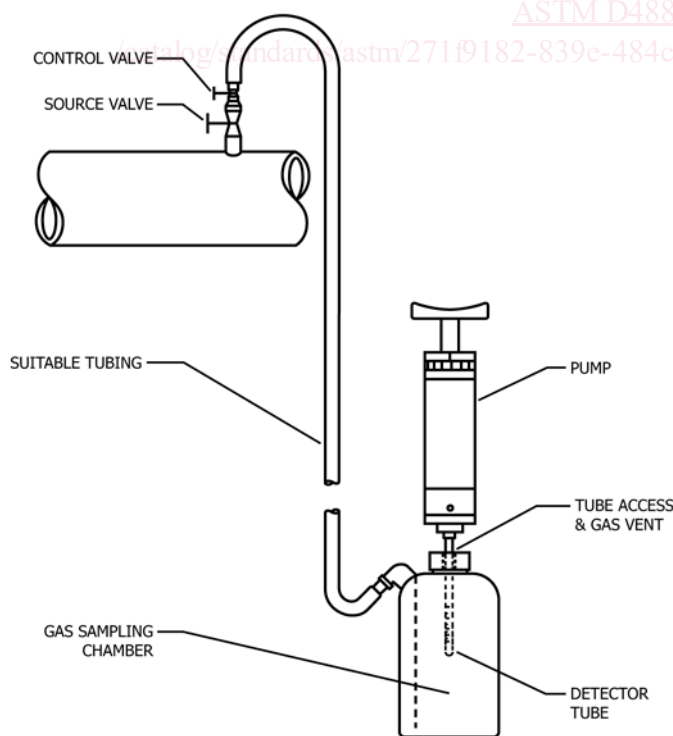

FIG. 1 Pump and Tube Apparatus
NOTE 3—A suitable chamber may be devised from a polyethylene wash bottle of nominal 500-mL (16-oz) or 1-L (32-oz) size. The wash bottle's internal delivery tube provides for delivery of sample gas to the bottom of the bottle. A ½-in. hole cut in the bottle's cap provides access for the detector tube and vent for the purge gas (Fig. 1).
5.2 Install needle valve (or pressure regulator) at the source valve outlet. Connect sampling chamber using the shortest length of tubing possible (Fig. 1). Many flexible tubing materials will be suitable for water vapor sampling; however, if the sampler is also used for other constituents such as hydrogen sulfide, then tubing materials should be chosen carefully. Avoid using tubing that reacts with or absorbs hydrogen sulfide, such as copper or natural rubber. Use materials such as TFE-fluorocarbon, polyethylene, or stainless steel. Stainless steel
5.3 Open source valve. Open needle valve enough to obtain positive flow of gas chamber, in accordance with 4.3. Purge the container for at least 3 min (Fig. 1). Purge for at least 10 min if a polyethylene bottle is used.
5.6 Break off the tube tips and insert the tube into the pump, observing the flow direction indication on the tube. Place the detector tube into the sampling chamber through the access hole, such that the tube inlet is near the chamber center (Fig. 1).